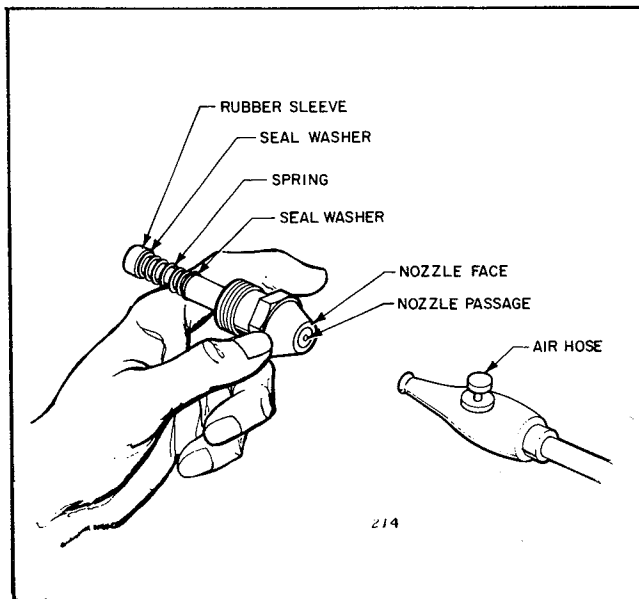

Figure 10. Blowing out Nozzle with Compressed Air
4. Soak the remaining parts of the burner head assembly for one hour in non-flammable liquid cleaning agent. (DO NOT use kerosene or fuel oil). Blow dry through fittings in rear of burner. Blow the nozzle dry through the face (OUTLET) end ONLY. See Figure 10.